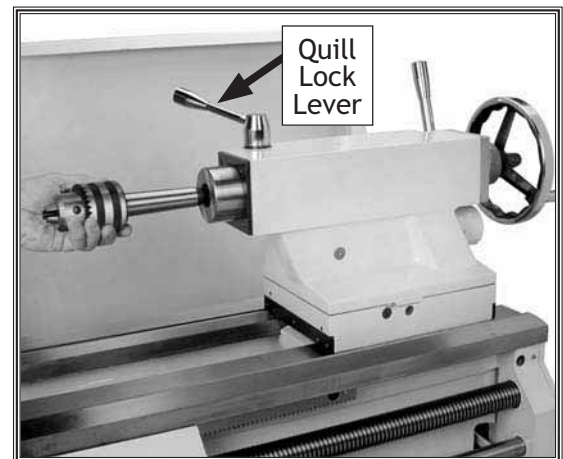

Figure 36. Setting up tailstock for drilling.
3. Insert a tapered drill arbor (Figure 36) or the tapered drill shank into the quill until the taper is firmly seated.